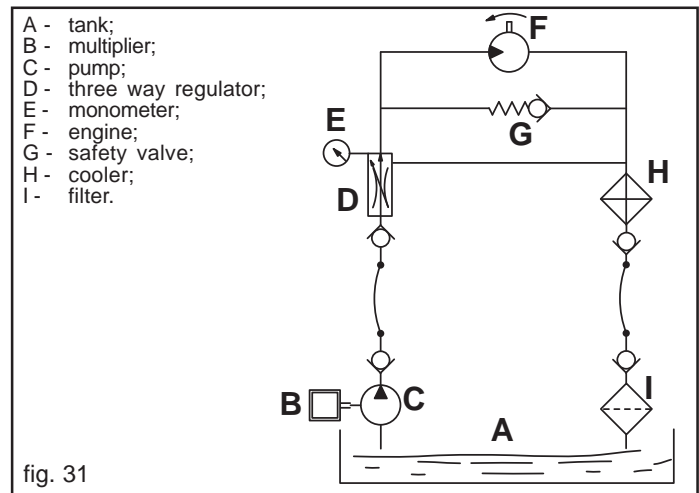

fig. 31
- Oil supply: follow the data in the table in Fig. 31.